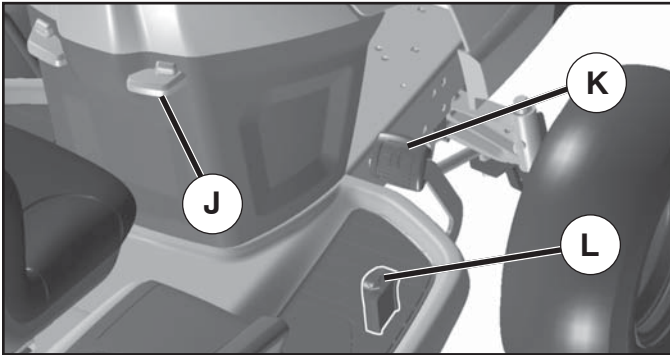

Fig. 8
### TO MOVE FORWARD AND BACKWARD (See Fig. 8)
## TO USE CRUISE CONTROL (J) (See Fig. 8)